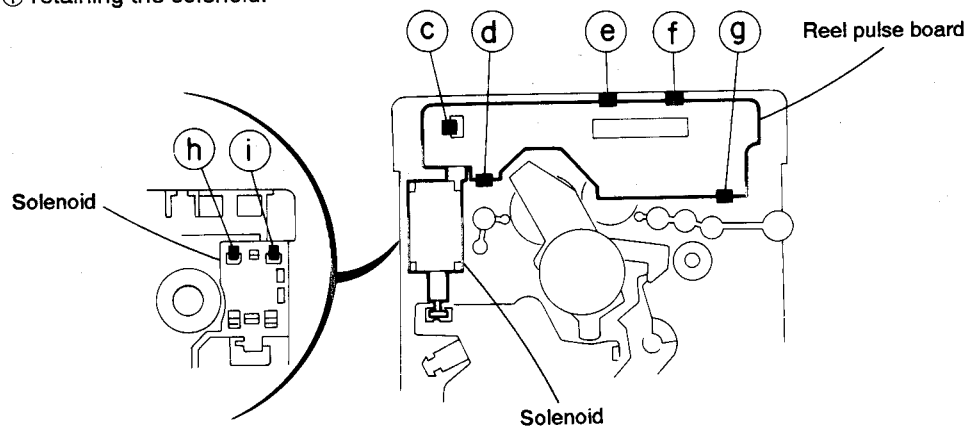

Fig.5-34
**■ Removing the Reel Pulse P.C. Board and Solenoid (See Figs. 5-34)**